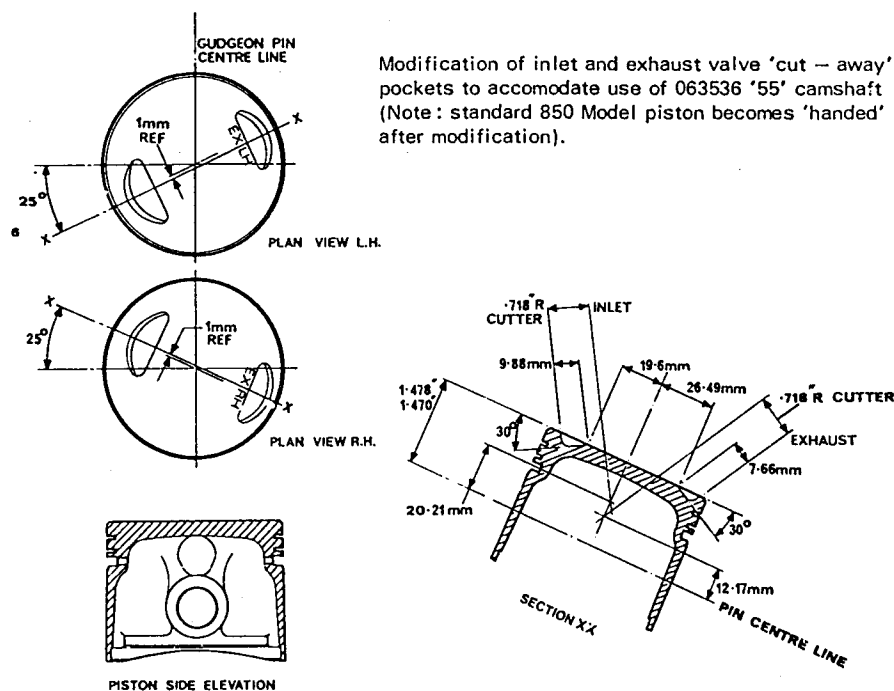

FIG. 1. PISTON CROWN MODIFICATION
1. Piston Conversion of the standard 850 piston 063838 to sports condition involves deepening the valve 'cut-away' pockets in accordance with the dimensions given in Fig. 1.